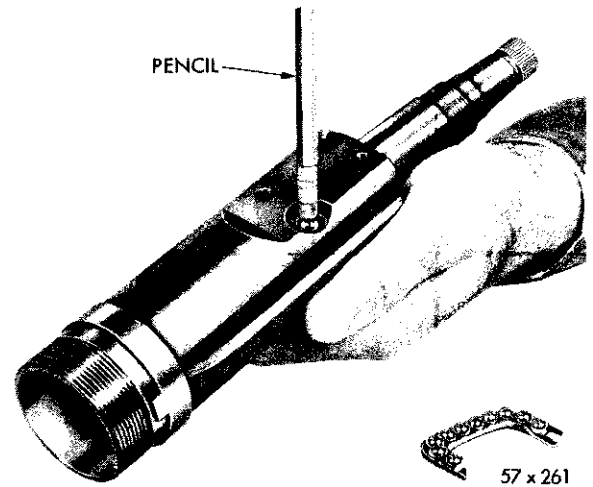

Fig. 62—Installing Balls in Worm Connector
Slide worm into connector and visually align upper portion of passages with ball guide holes. Insert 30 balls (no more), into lower hole by pushing them gently, using rubber end of pencil, and at same time, oscillating worm, as shown in Figure 62. When 30 balls have been inserted, they should be visible in the hole. Place remaining (10) balls in either half of ball guide. Grease balls to help hold them in place, then place the other half over balls.
Insert guide and ball assembly into holes in connector (Fig. 62). Install clamp, lock washers and bolts. Tighten bolts to 12 foot-pounds torque. Check operation of worm, making sure it is free to turn the maximum travel of worm shaft. The worm should rotate freely by its own weight in either direction. **Do not allow worm to bottom.** Install valve adjusting cup on end of valve rod. Slide worm connector nut lock over threaded end of connector with tang side facing threads.